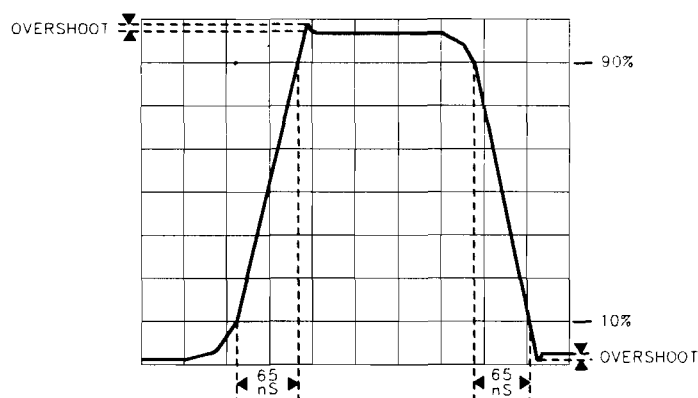

Figure 3-21.
18. Use the oscilloscope ($\Delta t \Delta V$) markers to measure the risetime, falltime, and percent overshoot of the composite Xdeflection waveform. Rise and fall times should both be less than approximately 65 ns between the 10% and 90% points on the waveform. Overshoot should be less than 3% (approximately 0.25 divisions). See Figure 3-21.